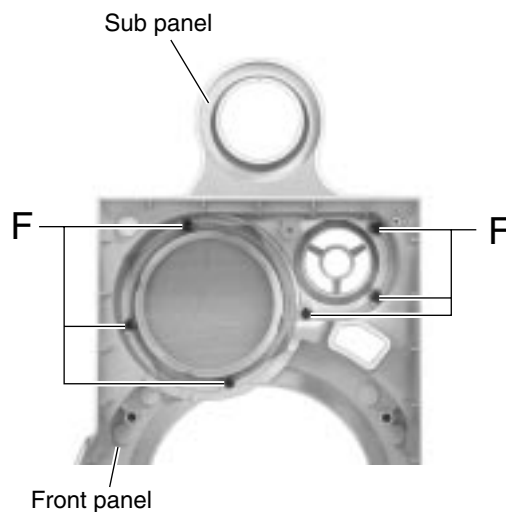

Fig.6
■ Removing the sub panel (See Fig.6)